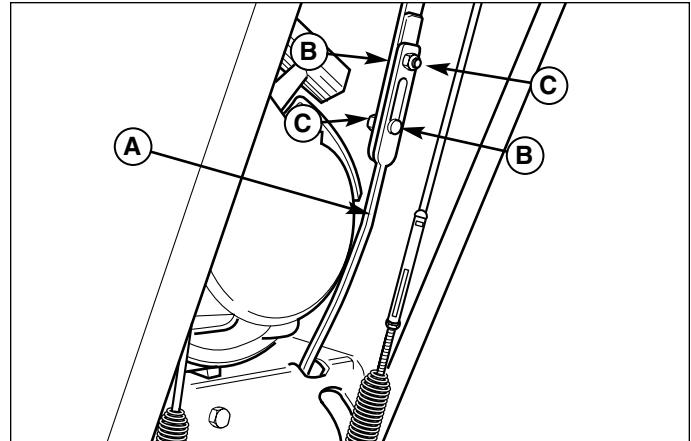

Figure 17. Speed Selector Linkage
1. Loosen the two nuts (C, Figure 17).
3. Push the lower rod into the housing and tighten the two nuts (C). Do not lift up or down on rods while tightening. Make sure the shoulders of the carriage bolts (B) are in the slots.